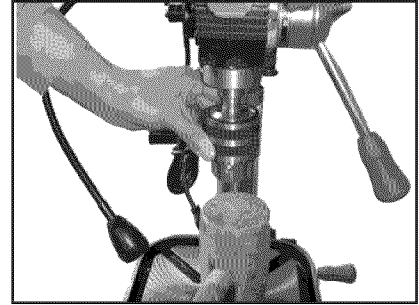

Figure 6
- 5.3 Use a wooden mallet to firmly tap the chuck securely into place in the spindle. **See Fig. 6.**